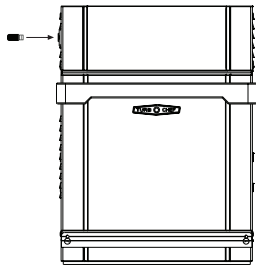

Figure 35: Insert USB
1. When the oven is off or cooling down, insert the USB (see figure 35, adjacent). The oven will automatically detect the device. Touch “OK” to proceed.
1. When the oven is off or cooling down, insert the USB (see figure 35 page, 20). The oven will automatically detect the USB. Touch “OK” to proceed.